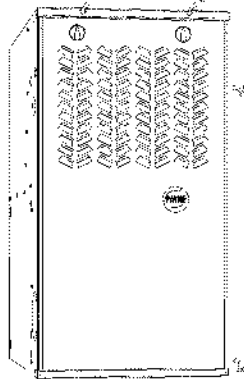

Fig. 6 - Remove Furnace Door
4. Remove the outer door by loosening the thumbscrew and pulling the door forward. See Fig. 6.
4. Remove outer furnace door. (See Fig. 6.)